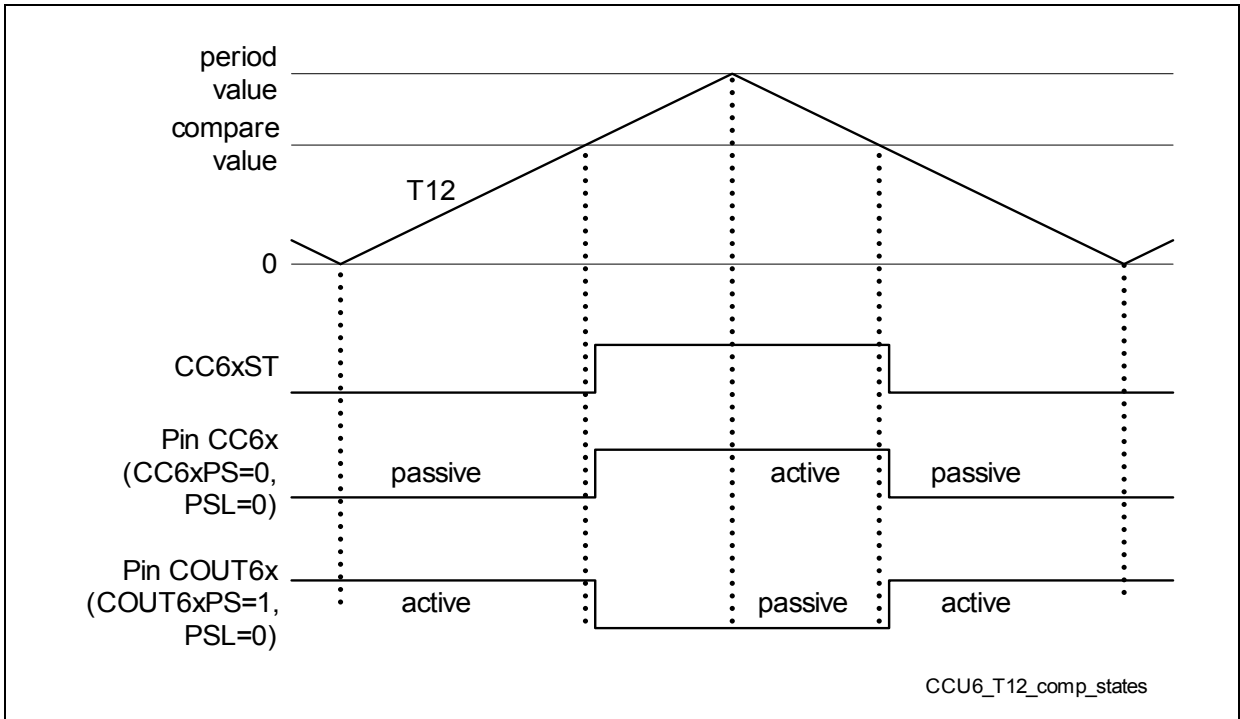

Figure 12-4 Compare States of Timer T12
**Figure 12-4** shows an example in the center-aligned mode without dead-time. The bit CC6xST indicates the occurrence of a capture or compare event of the corresponding channel. It can be set (if it is 0) by the following events: